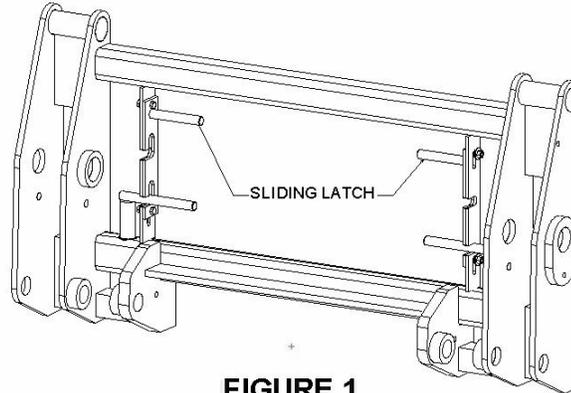

FIGURE 1.
**STEP 1** For a new loader installation, the mountings must be installed on the tractor first. Refer to the typical mounting kit shown in Figure 1. A detailed schematic of your specific kit is available—just call 1-800-570-8205 if the schematic was not included with your new loader.
**STEP 1** DRIVE THE TRACTOR ONTO FLAT CONCRETE and place the loader in the position shown in Fig 1.
1. Raise sliding latches as shown in Figure 1.
3. Rotate QT pins out of the upper notches, lower, and then rotate them into the lower notches on the sliding latches as shown in Figure 1. **NOTE:** If the QT pins do not easily slide thru the lug on the attachment, do not force them. Simply rotate the attachment back and forth slowly with the bucket cylinders of the loader and the QT pins should fall into place. Periodically grease the QT pins and sliding latches.